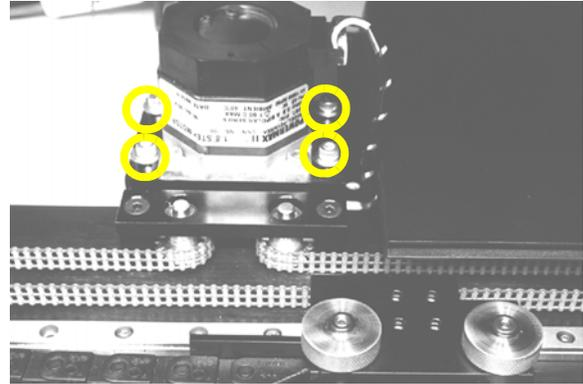

Figure 5-3—Location of four motor mounting screws
- 3b) If the belt moves more than 12 mm (0.5 inch) off its path, loosen the four motor mounting screws (see *Figure 5-3*), and then push the motor away from the belt until the belt tension is correct.